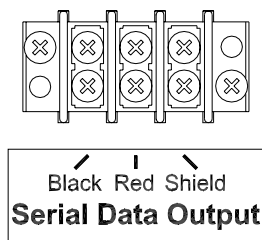

Figure 10 Serial Data Output Wiring Diagram
3. Connect the cable to the terminal block labeled **Serial Data Output** on the junction chassis according to figure 10.